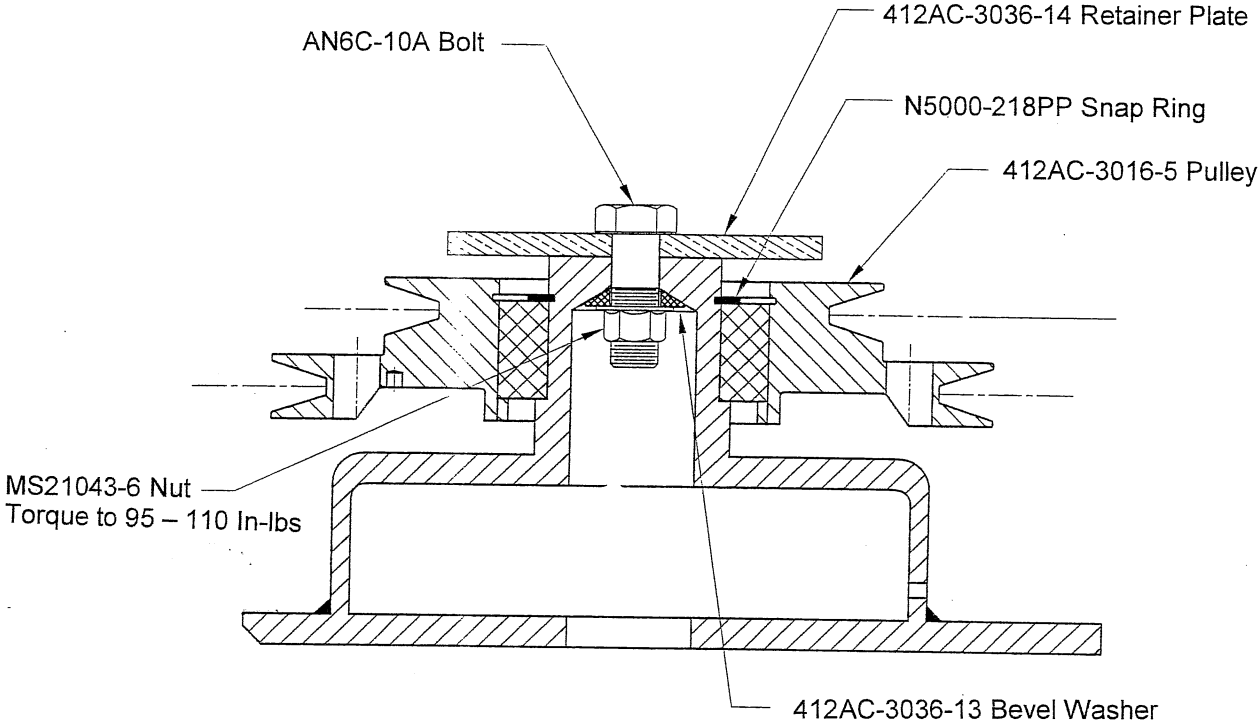

Figure 1, 412 Air Conditioner
6. Remove MS21043-6 Nut from AN6C-10A Bolt in center of the Speed Reducer assembly (figure 1).
7. Remove AN6C-10A Bolt, 412AC-3036-13 Bevel Washer, 412AC-3036-14 Retainer Plate (figure 1).
8. Remove N5000-218PP Snap Ring from Speed Reducer Shaft (figure 1).
9. Remove 412AC-3016-3 Pulley Assembly from the Speed Reducer Shaft (figure 1).
1. Install new pulley P/N 412AC-3016-5 on to Speed Reducer Shaft (figure 1).
2. Reinstall the N5000-218PP Snap Ring on the Speed Reducer Shaft (figure 1).